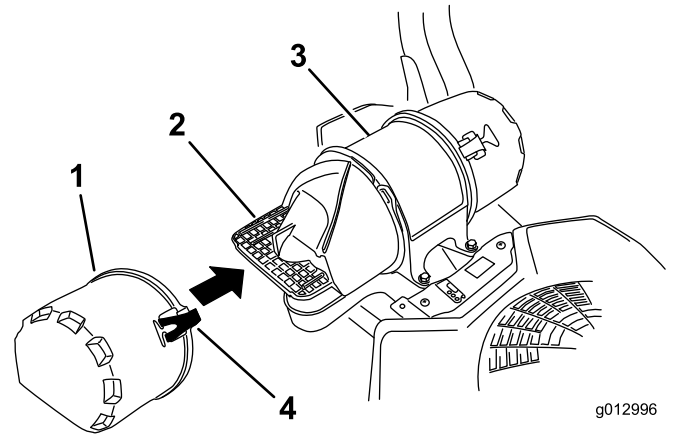

Figure 41
3. Release the latches on the air cleaner and pull the air-inlet cover off the air-cleaner body (Figure 41).
5. Install the air-inlet cover and secure it with the latches (Figure 41).